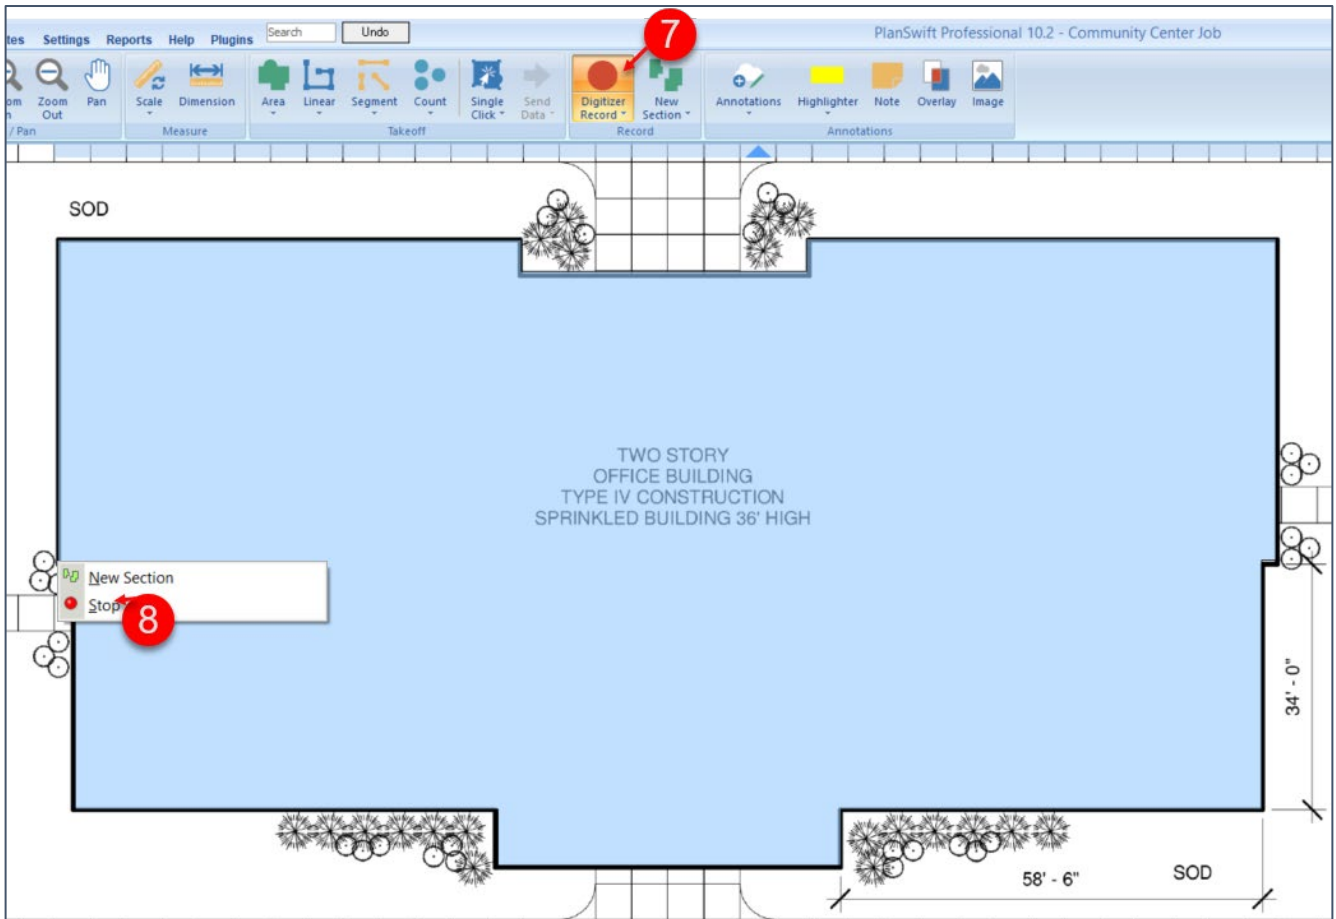

Figure 33-B
9. The square footage of the pad shows as 13,529.6 SQ FT in the **Pages, Bookmarks** window (Fig. 33-C).